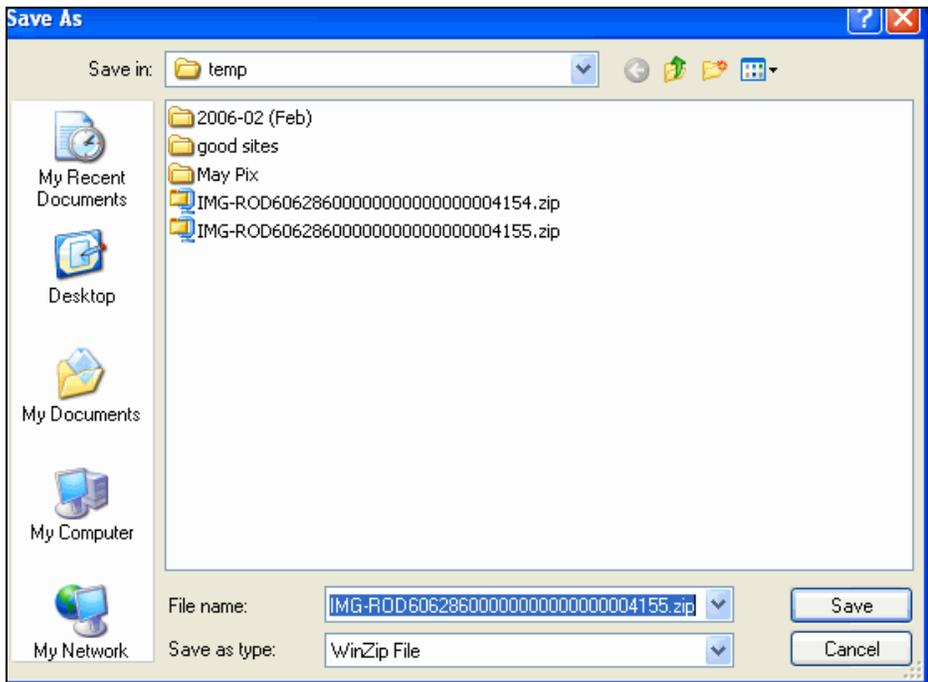

Figure 5.32.4
1. Click the ‘Save’ button in the File Download window. The system will display a ‘Save As’ window as in Figure 5.32.4.